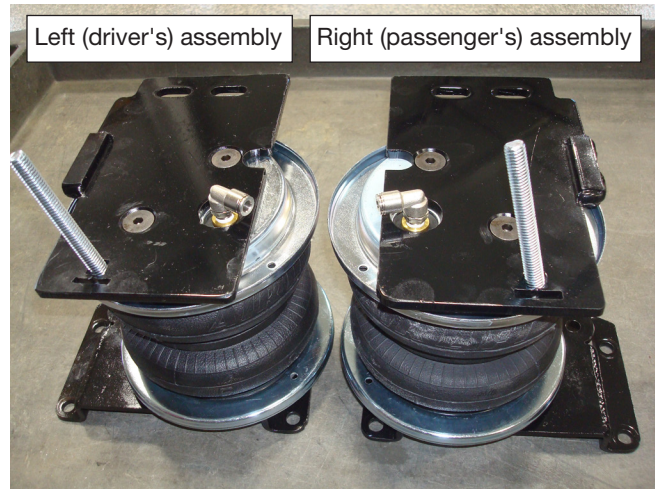

Fig. 11
4. Figure 11 shows the left- and right-hand assemblies.